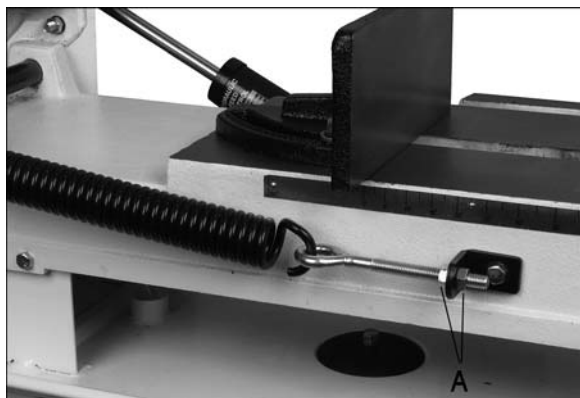

Figure 18
5. If adjustment is needed, loosen one nut and tighten the other (A, Figure 18) on the eye bolt, until scale indicates 5 to 6 kg.